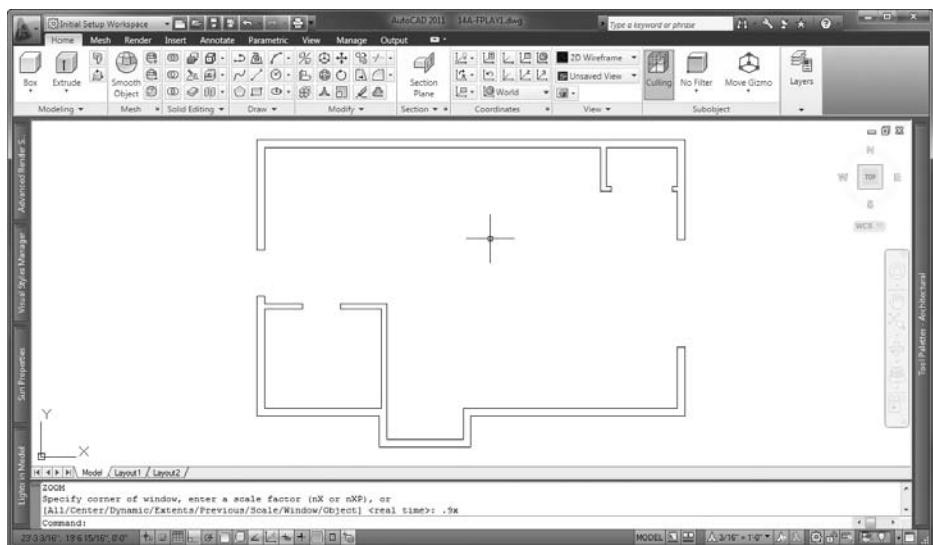

FIGURE 16.5 14A-FPLAY1.dwg with all layers turned off except A-WALL
6. Zoom into the floor plan, make the A-WALL layer current, and freeze all other layers. Your drawing and AutoCAD setup will look like Figure 16.5.